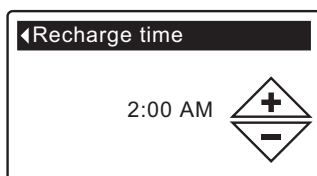

FIG. 42
5. Press the SELECT (O) button to display the Recharge time screen (See Figure 42).